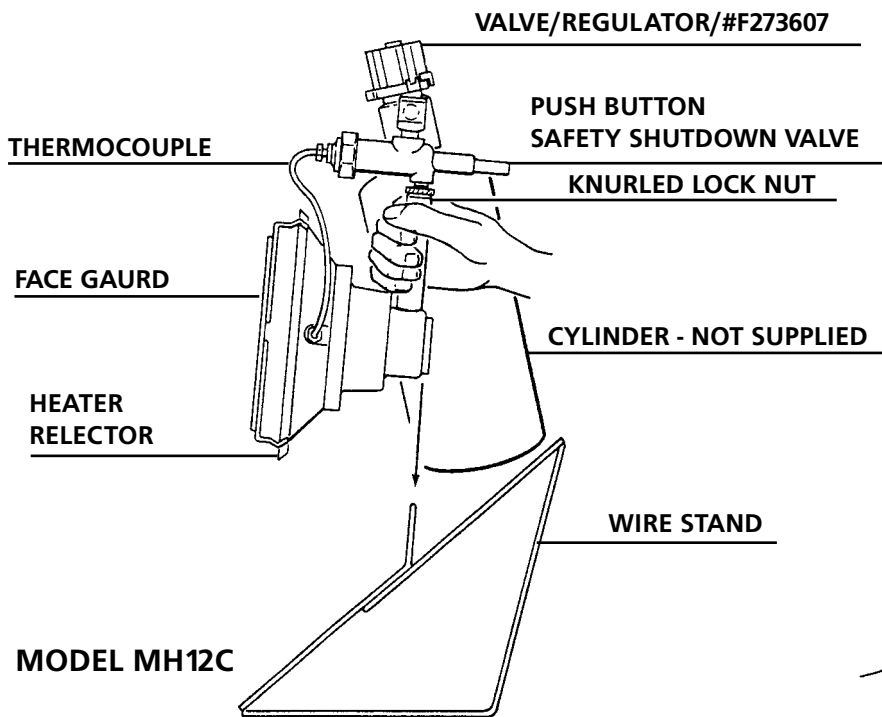
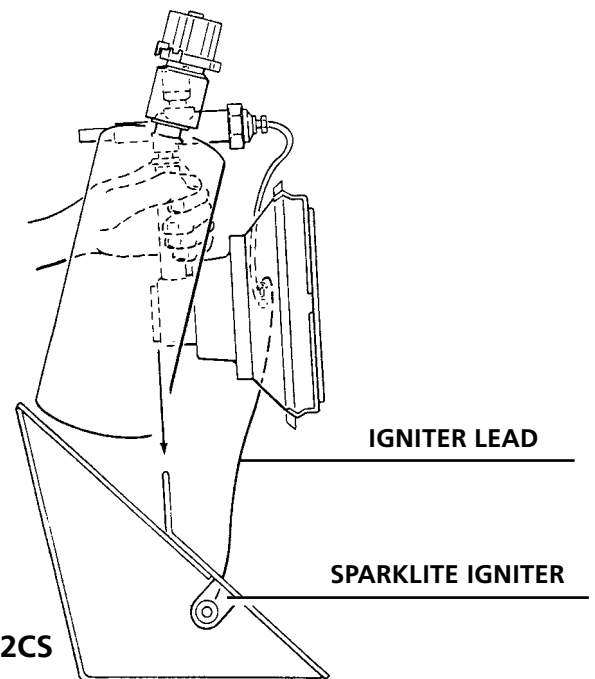

Figure 1
Figure 2
- 1.3 Hold heater in one hand and with the other hand hold propane cylinder vertically and carefully turn clockwise into heater valve-regulator until snug. (Careful not to cross-thread) – Fig. 1 and Fig. 2.
- 2.1 Grasp heater model by cylinder and hold wire stand with other hand. Slide mounting clip on back of heater onto chrome plated wire stand. Fig. 1 and 2.
- 2.2 Push igniter lead onto end of Sparklite Igniter on Model MH12CS-Figure 2.
- C.** Make sure the heater is firmly placed in the metal stand. (See Figure 1 and 2).
- D.** Make sure knurled lock nut is tightened securely – Figure 1.